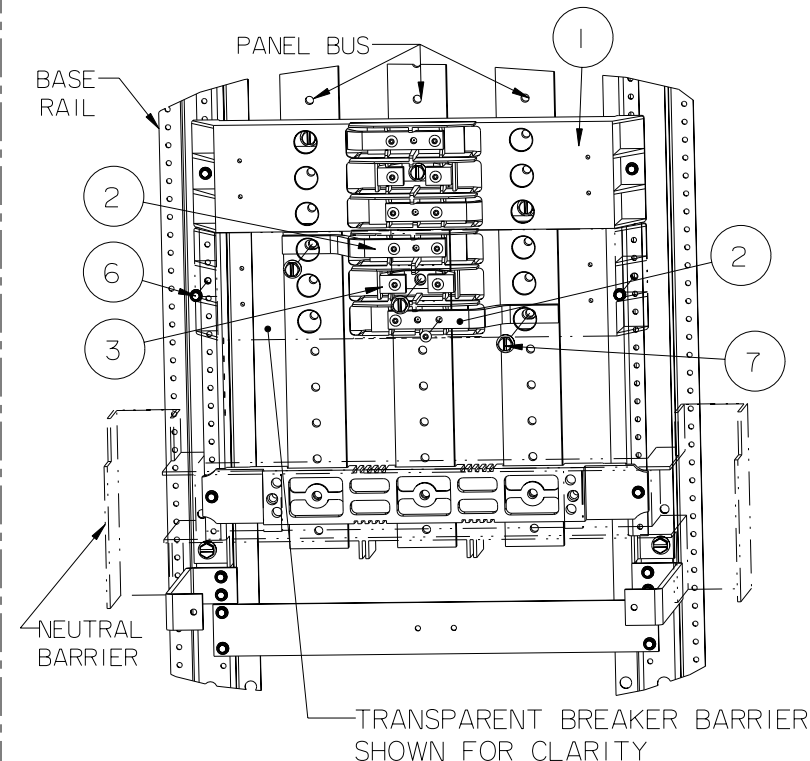

Figure 3
6. Refer to fig. 3. - Position the breaker mounting barrier (item 1) so that it fills the 3" unit space for the kit and fasten it to the base rails using two 8-32 screws (item 6). Install the two outer rails connectors (item 2) and the center connector (item 3) within the mounting barrier, as shown. Use the locating pins on the mounting base to aid in aligning the two outer connectors with center hole in the connector bus. Fasten the connectors to the panel bus with three 1/4-20 X 1" screws (item 7).